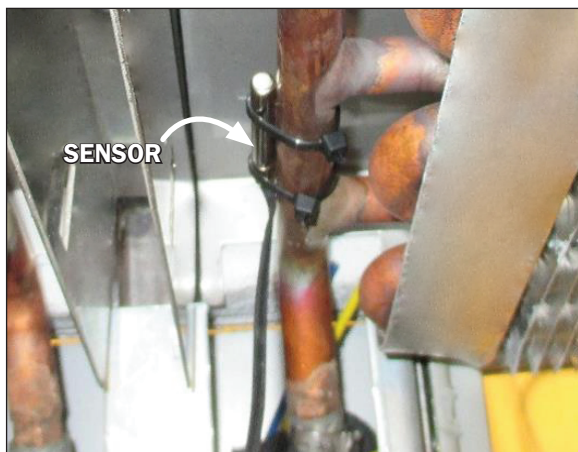

Fig. 5 Gravity coil sensor
1. The gravity coil will have a sensor attached at the return side of the coil (Fig. 5).